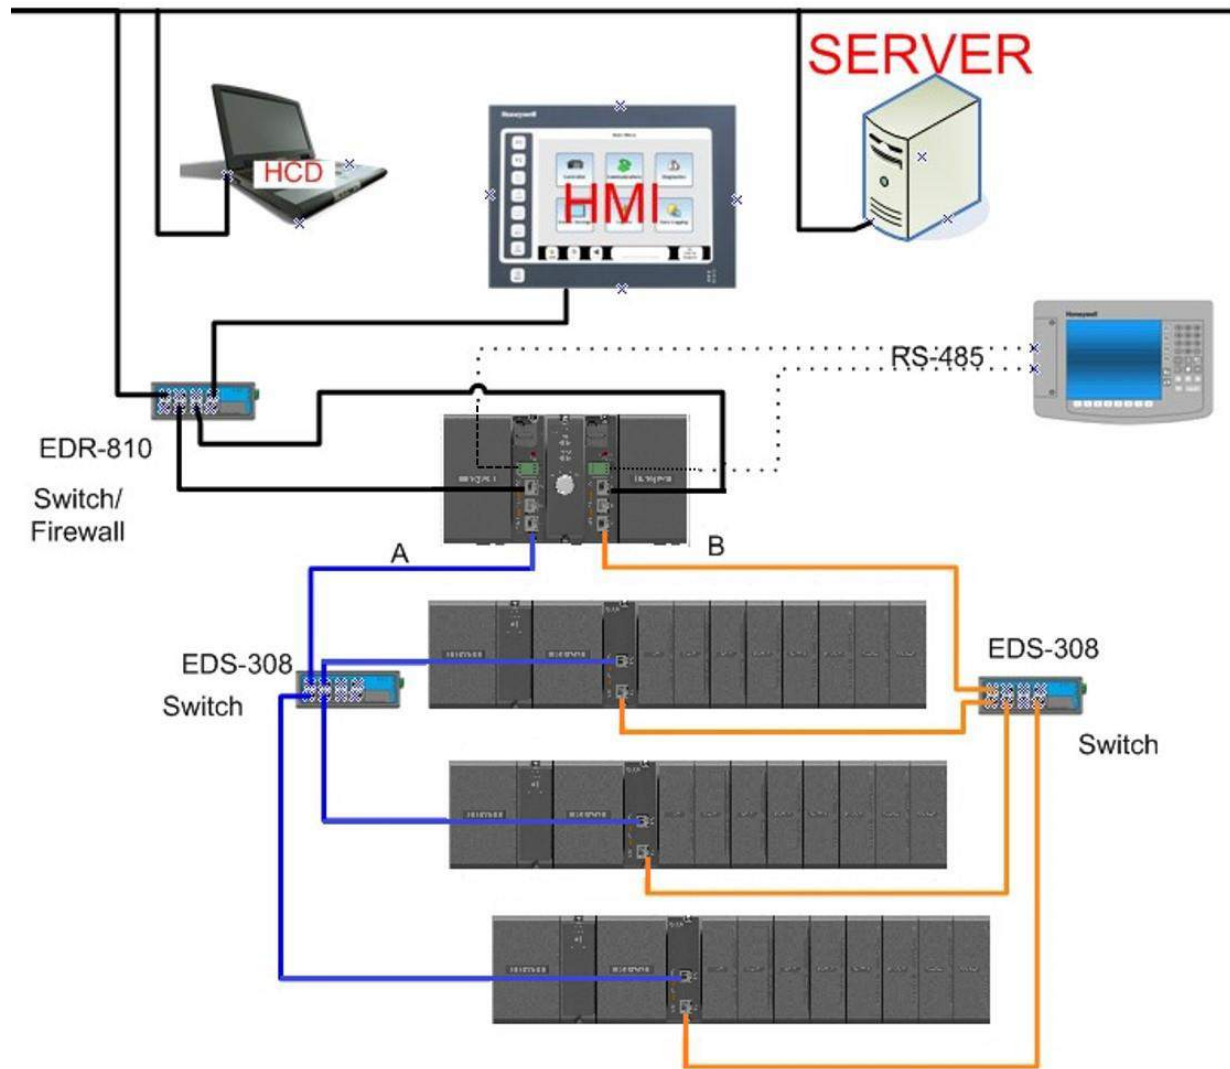

Figure 4 Ethernet switch with redundant controller
- Requires Honeywell (PN 50008930-001) or commercially available industrial switches, routers, etc for 10/100-baseT connection to the host/peer network. See **Figure 4**.